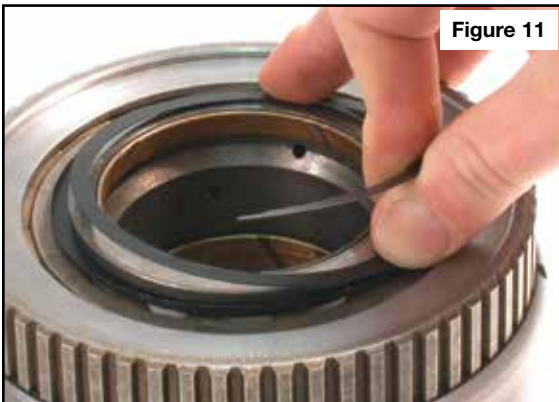

Figure 11
b. Walk the spiral ring into the retaining groove as pictured (Figure 11).